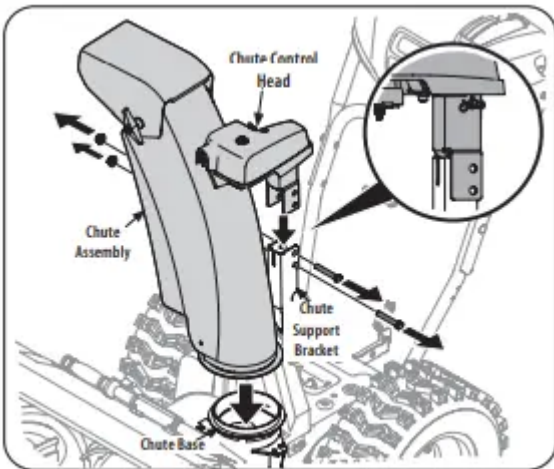

Figure 27
- Remove lock nuts and hex screws from chute support bracket (this will require two wrenches). See Figure 27.
- Place chute assembly onto chute base and chute control head onto chute support bracket. See Figure 27.